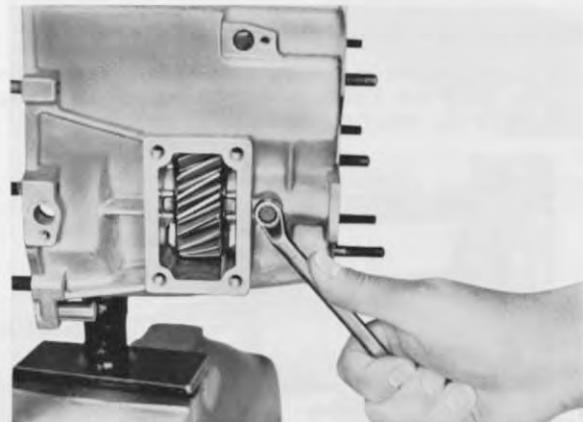

Fig. 17
- Undo the screws (118) and take off the cover plate (117).
- Remove the set screws (507) from the housing (Fig. 17) or pull out the dowel (511). Pull out the reverse idler shaft
2. Insert screws (507) with spring washer (506) (underneath) and tighten to 2,0 to 2,5 kpm (see Fig. 17). The securing bolt must come to lie behind the shaft (not in the groove). On various gearbox types a dowel (511) must be put through the housing into the shaft bore.
3. Fasten gasket (116) and cover (117) onto the housing with set screws (118) and spring washers (103) (underneath). Tighten torque of the screws to 2 to 2,5 kpm.